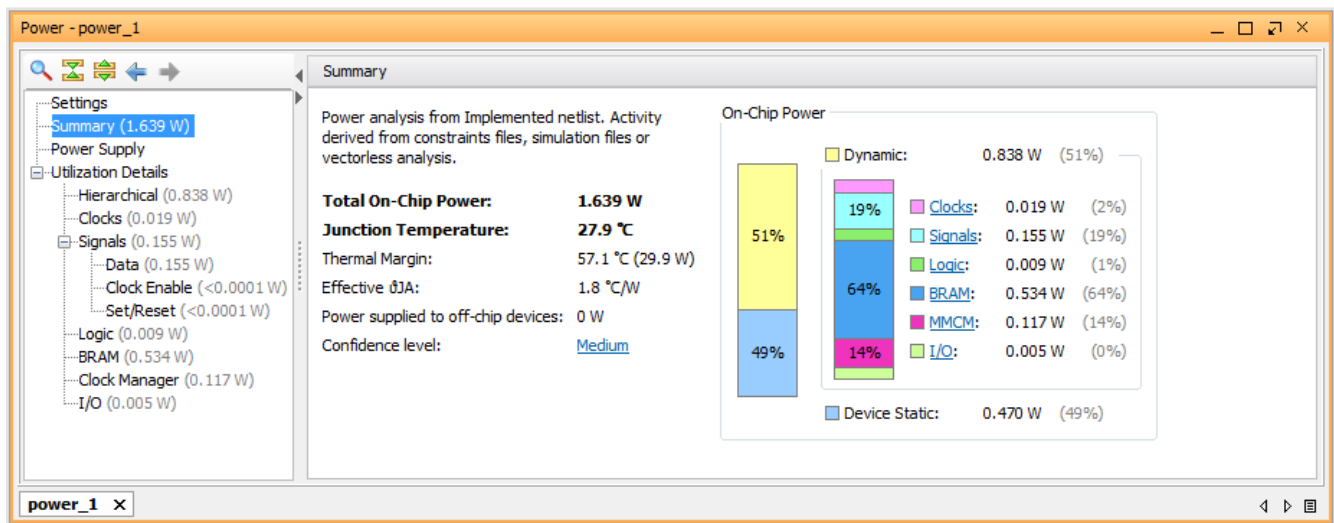

Figure 34: Running Post-Implementation Report Power in Vectorless Mode
3. Note the total power (**Total On-Chip Power**) in the power report **Summary** page (Figure 34).